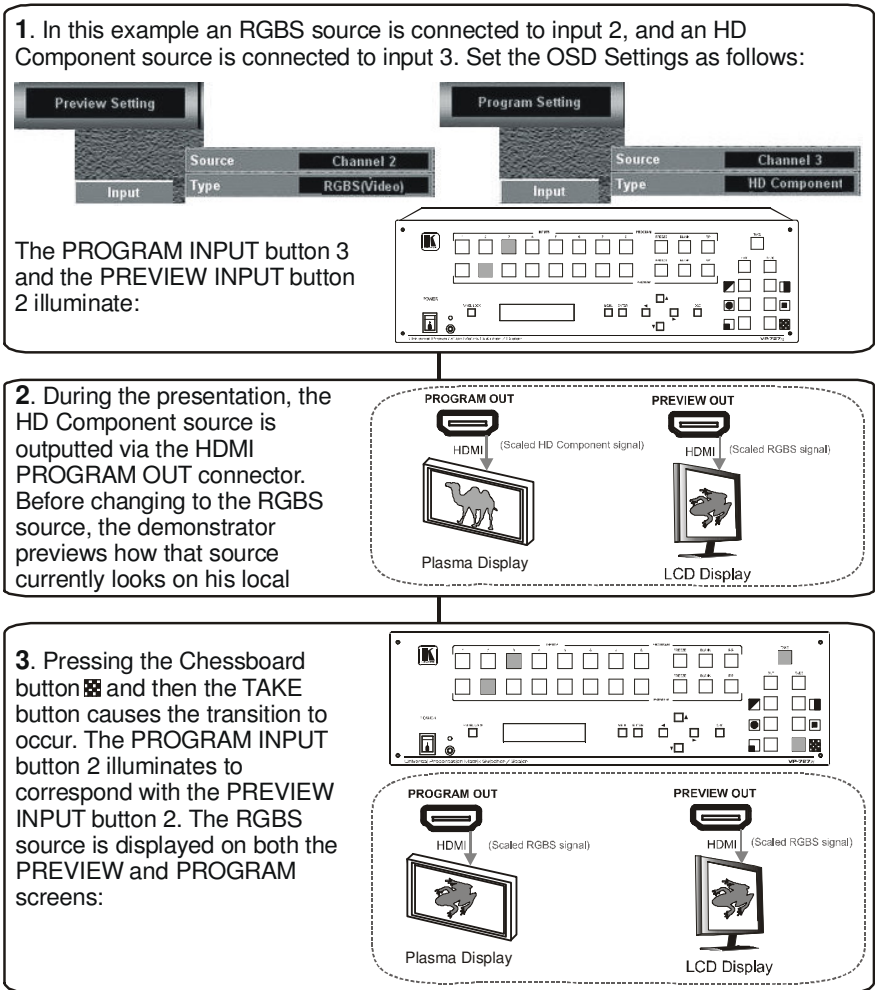

Figure 9: Example showing the use of the PREVIEW and PROGRAM Output
- See how the scaled output will look before displaying live during a presentation. As the example in Figure 9 illustrates, after seeing how the RGB source looks when scaled to HDMI, it can be interchanged with the YUV source, seamlessly, using an elaborate (in this case chessboard) transition effect
- The Follow mode (shown in Figure 9) in which the PROGRAM input button is switched to the same position as the PREVIEW input button after the TAKE button is pressed
- The Swap mode, in which the PREVIEW input buttons and the PROGRAM input buttons switch places after pressing the TAKE button. For example, in Figure 9 the PROGRAM input button 3 would switch to 2 and the PREVIEW input button 2 would switch to 3, so the RGBS source is displayed on the PROGRAM screen and the HD Component source is displayed on the PREVIEW screen.